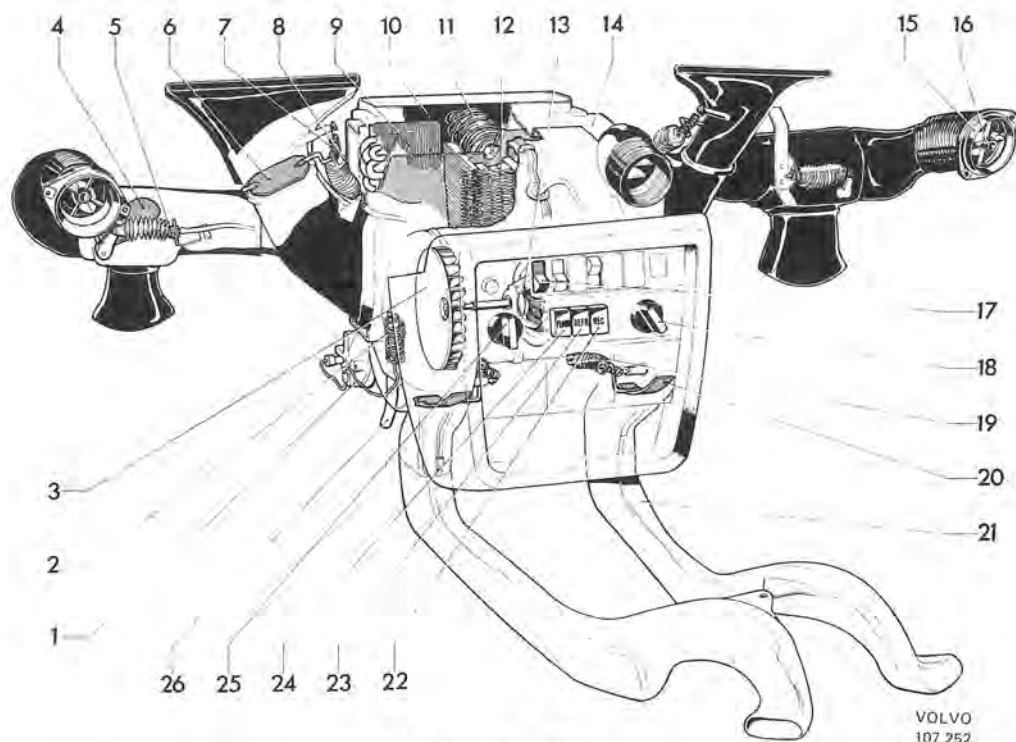
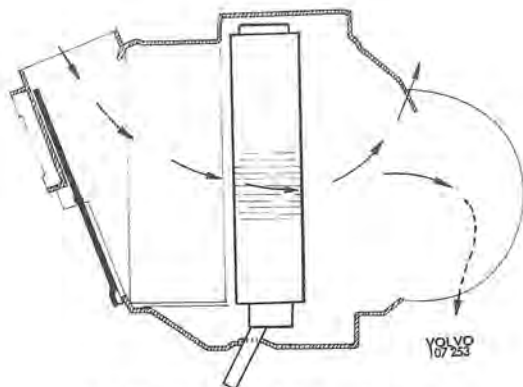
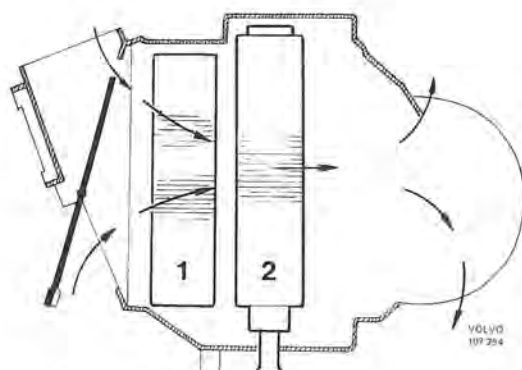

Fig. 8-31. Combined unit
Fig. 8-32. Air circulation through system
Fig. 8-33. Air circulation through system with re-circulation
This is a combined heater and fresh-air unit, prepared for installation of air conditioning. It consists of a central unit (14, Fig. 8-31), located under the dash, and air ducts and vents for distributing the air to the various points inside the car. All shutters for directing the air are regulated by vacuum, which is taken from the engine intake manifold via a vacuum tank placed in the engine compartment. The four vents (15) on the dash are manually adjustable and can be turned, opened and closed irrespective of each other and by means of a knob in the centre of the valve (16).
the push buttons. When all buttons are out, only fresh air is drawn into the unit (Fig. 8-32), all flow ducts are closed and the defroster effect is weak. When the button marked "FLOOR" is pushed in, full air flow is supplied to the front and rear floor together with weak defroster effect. When the middle button "DEF" is pushed in, full defroster effect is obtained while the floor ducts on the other hand are fully closed. When the right button marked "REC" is pushed in, the air intake cover is adjusted to re-circulation of the compartment air (Fig. 8-33). With the cover in this position, only a small portion of fresh air is sucked in and mixed with the compartment air. If the vehicle is provided with air conditioning, more effective lowering of the temperature inside the compartment is obtained if the re-circulation is used.
Even when the air conditioning is switched on with a switch (17, Fig. 8-31) on the dash, the air temperature is regulated by the "TEMP" control. Fig. 8-33 shows how the sucked-in air is first cooled when it passes the evaporator (1) and how it is heated when it passes the heater cell assembly (2) up to the temperature adjusted by the "TEMP" control. When the air passes the evapora-
tor, it liquifies as it cools. The moisture which condenses on the evaporator during the cooling, is drained through the two hoses (26, Fig. 8-31), which run through the transmission tunnel.